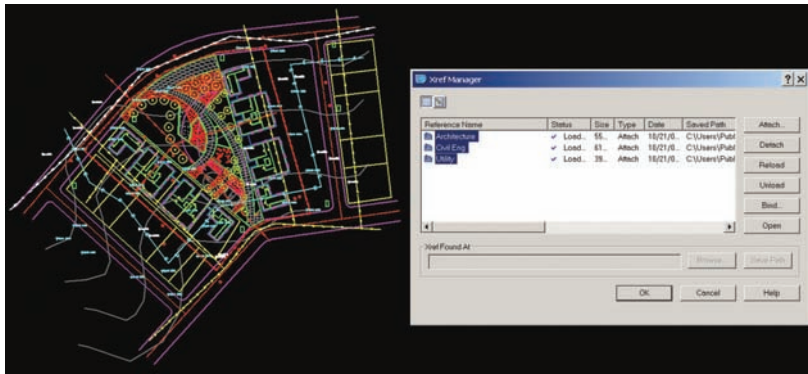

Fig. 17-4: The AutoCAD XREF Menu and XREF Files. To the left of the menu is the overall site plan file with all the XREF information visible.
At first glance, identifying and organizing the information in the AutoCAD files might seem like a daunting task—especially when External Reference AutoCAD files (XREFs) are present. However, you can use a systematic approach to organize the linework and blocks into coherent and usable information. By using a systematic approach, you can divide your overall task into smaller tasks that you can easily handle. This approach starts with editing and then deleting all of the XREF files. Fig 17-4 illustrates a complete AutoCAD file that includes associated XREF information. Examples of XREF files are illustrated in diagrams Fig. 17-5 through Fig. 17-7.
- a. To detach the XREFs, type **XREF** at the AutoCAD command prompt. This will bring up the External Reference menu listing all the XREF files (Fig. 17-4).